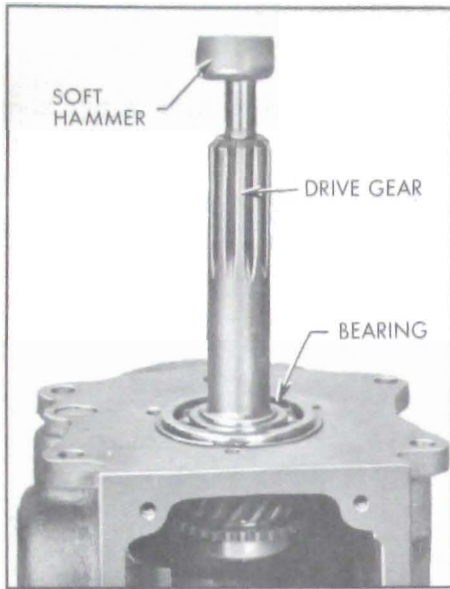

Figure 4-24—Removing Main Shaft of Drive Gear Bearing
13. If bearings on main shaft and/or drive gear are to be replaced, remove shaft snap ring and drive bearing off shaft. See Figure 4-24. Remove slinger washer from drive gear shaft and remove outer snap rings from bearings.